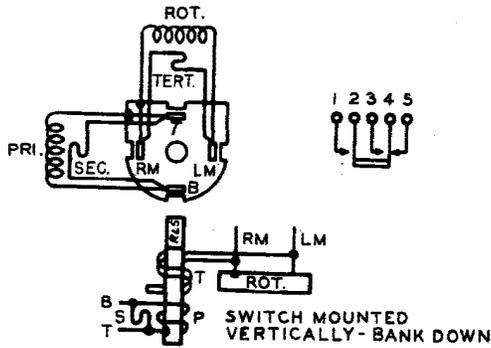

Fig. 109 - Winding and Spring Terminal Arrangement as Viewed From the Rear (terminal side) — 204-Type Selectors
4.17 204-Type Selectors: The contact terminals are numbered consecutively from the mounting bracket outward. The winding terminals are designated as shown in Fig. 109.